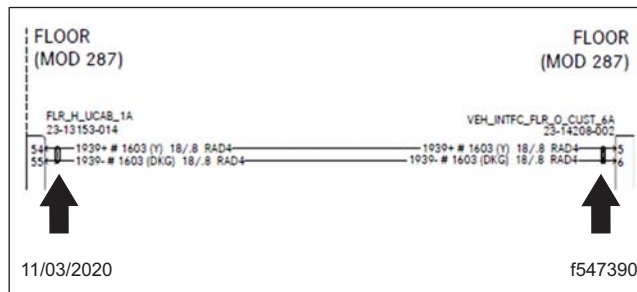

Fig. 13, If Not Present, Add Harness A66-10960-"L"
- If not present, add harness A66-10960-"L" ("L" designates the length of the harness: -007 for day cab, -032 for extended cab, -060 for crew cab) in FLR_H_UCAB_1A and VEH_INTFC_FLR_O_CUST_6A between pins 54/55 and 5/6. See Fig. 13 from schematic G66-07101-004.